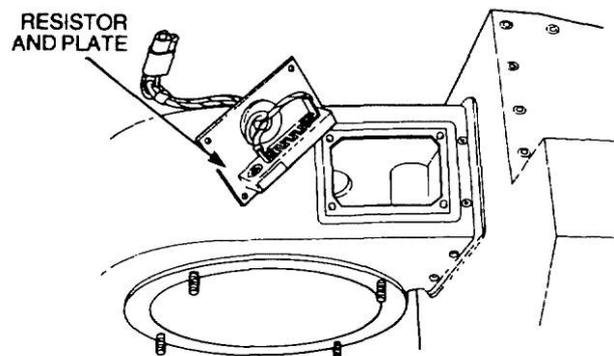

Figure 164 Removal of the Resistor and Plate
- a. Using a suitable drill remove the four rivets securing the resistor plate to the case (Figure 164), withdraw the resistor and plate assembly.